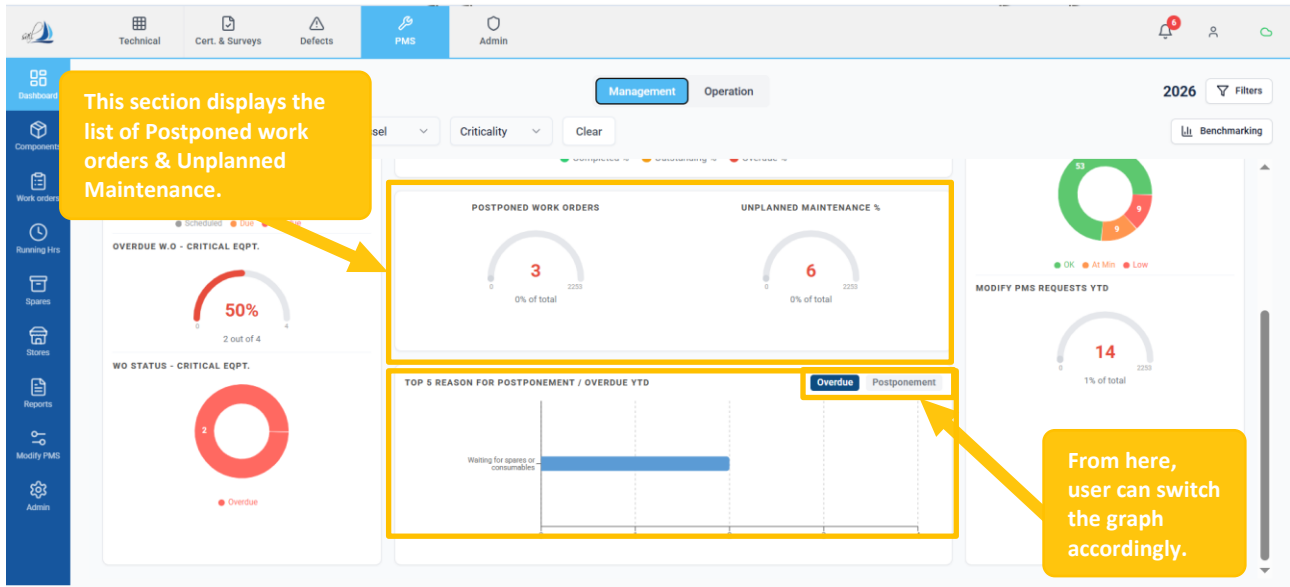

Figure 7
- **Postponed Work Orders:** Show the count and proportion of postponed maintenance tasks. (Ref Figure 7)
- **Unplanned Maintenance %:** Shows the count and proportion of unplanned work orders.. (Ref Figure 7)
- **Top 5 Reasons for Postponement / Overdue YTD:** Shows the primary causes of delays in work order activities. (Ref Figure 7)